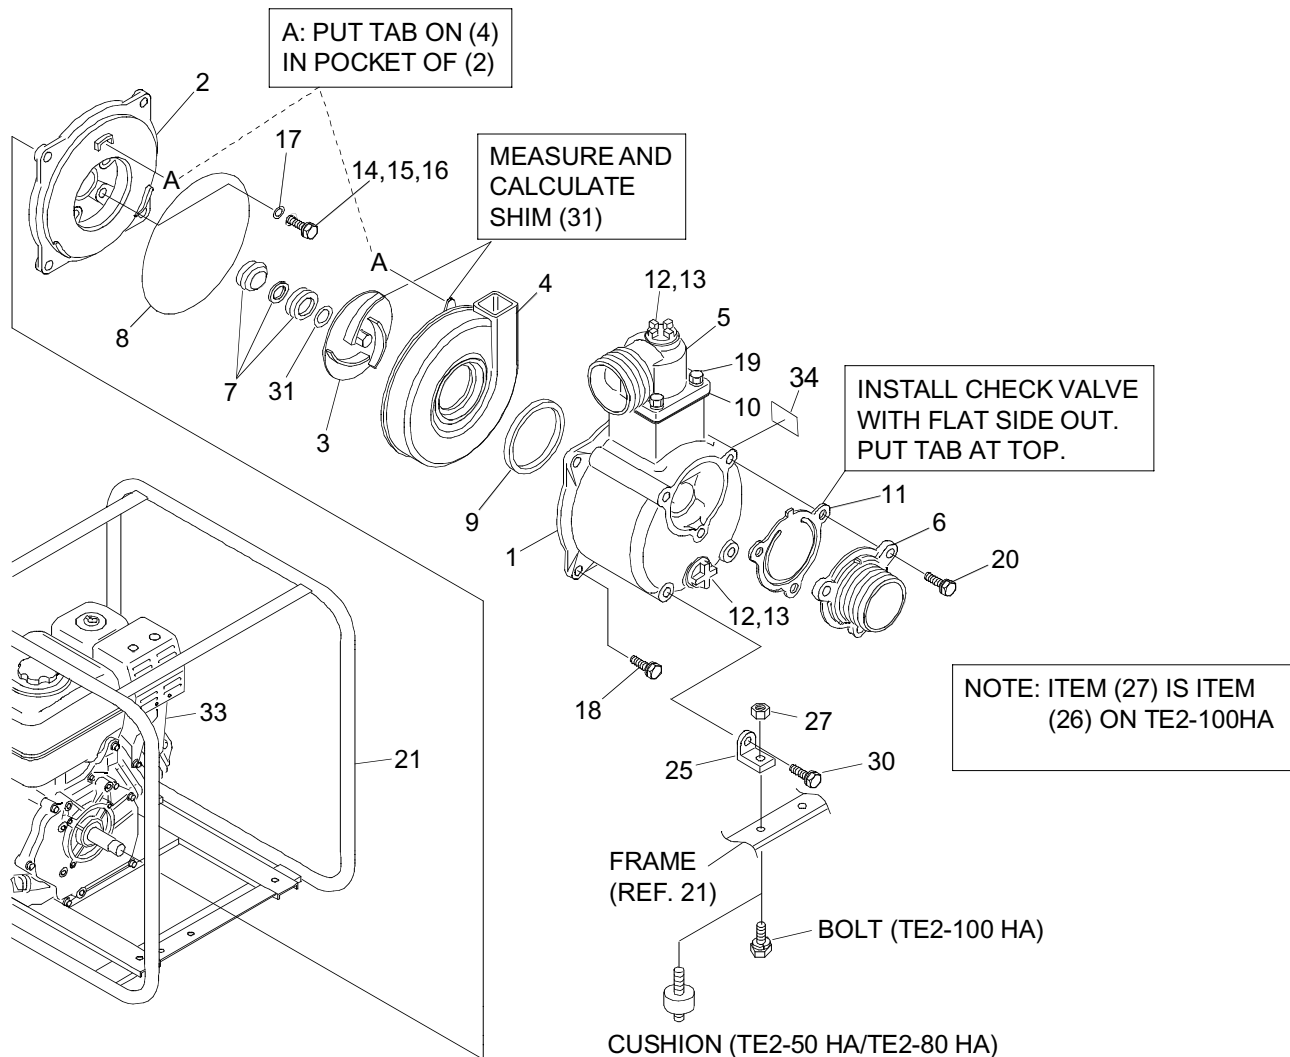

Figure 4-4: Removal of Internal Components
- The item numbers in procedures correspond with the item numbers used in the **REPLACEMENT PARTS** section of the manual. Refer to exploded view in Figure 4-4 for parts location.
- Use wooden blocks to steady and support frame (21) and engine (33) during disassembly and assembly.
- (1) Remove two screws (30) from bracket (25) and pump casing (1). Remove two spring nuts (27) and two brackets (25).
- (2) Position the frame (21) so the pump is facing up (with the engine shroud down).
- (3) Remove four bolts (18) and lift casing (1) from casing cover (2).
- (4) Remove volute casing (4), packing (9), and O-ring (8). Check packing (9) and O-ring (8) for damage and replace if damaged.
- Refer to Figure 4-4 for location of parts used on Models TE2-50HA and TE2-80A.
A. Replacement of Pump Cushions (24) on Models TE2-50HA and TE2-80A.
- (1) Remove screws (30) from casing (2) and brackets (25).
- (2) Remove nuts (27) and brackets (25) from threaded end of cushions (24).
- (3) Remove nuts (26) from threaded end of cushion (24) (on the underside of frame crossover support). Remove cushions and check for damage; replace damaged cushions.
- (4) Install threaded end of new cushions (24) through holes at pump end of frame. Secure with nuts.
- (5) Install short end of new cushions (23) through holes at engine end of frame. Secure with nuts (26).